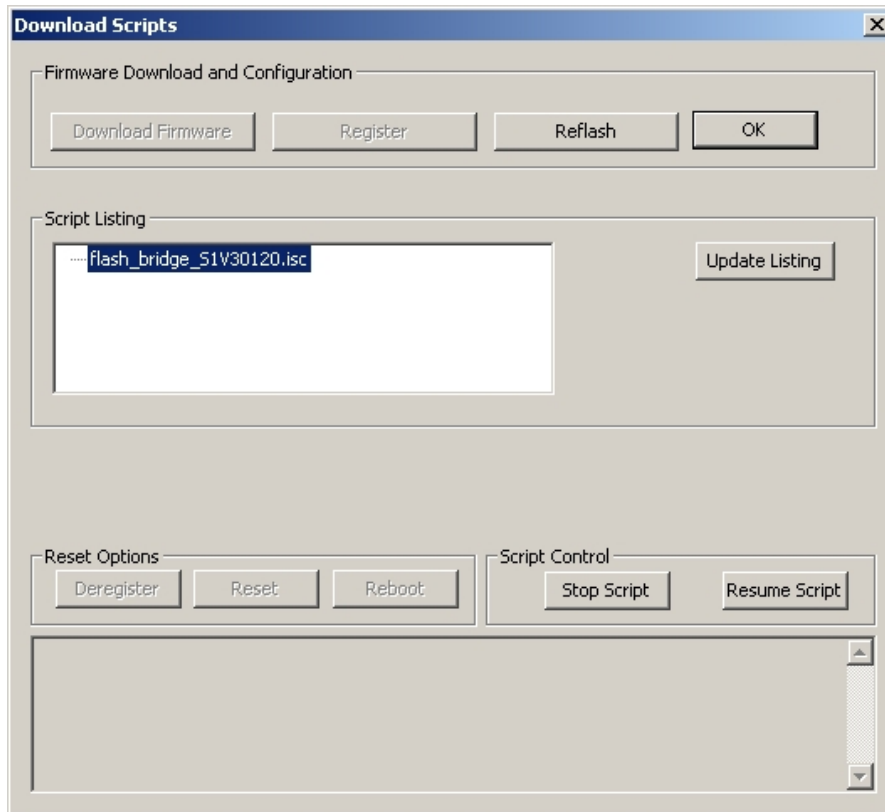

Figure 5 Reflashing the Bridge
1. Click on Run Demo from the Main Application Window. This will display the Download Scripts Window as in Figure 5.